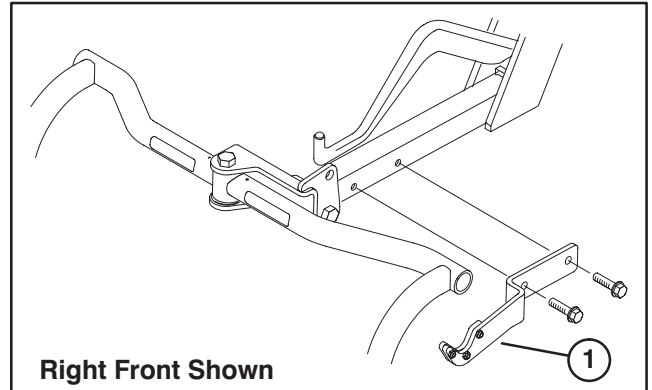

Figure 13
16. Mount a transport plate to inside of each front lift arm with (2) 3/8–16 x 5/8” lg. thread forming screws (Fig. 13).